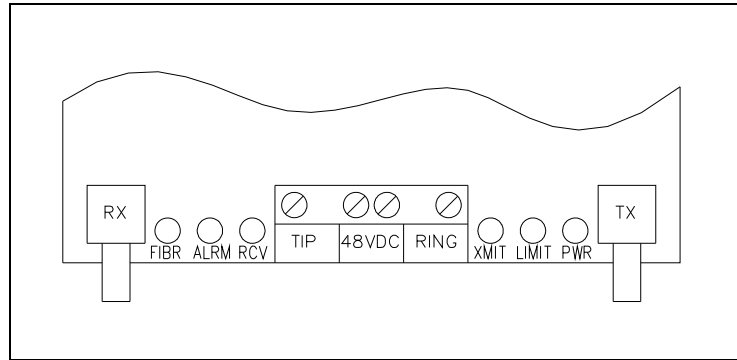

Figure 4. Data Card Connectors and LEDs
2. Compress the plastic card guide latch on the right side of the PCBA to slide it partially out from the housing. Carefully slide the card further out of the housing to make the necessary connections to the PCBA. The PCBA should not need to be removed from the housing to make the connections (see Figure 4 for the data card connector and LED layout).
2. Compress the plastic card guide latch on the right side of the PCBA to slide it out partially from the housing. Carefully slide the card further out of the housing to make the necessary connections to the PCBA. The PCBA should not need to be removed from the housing to make the connections (see Figure 4 for the data card connector and LED layout).